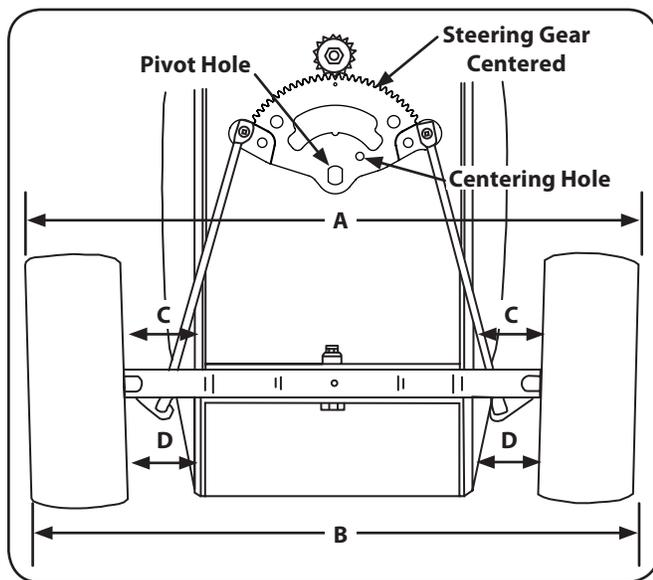

Figure 6-6
The front wheels should toe-in approximately $\frac{1}{8}$ to $\frac{1}{4}$ " as measured across dimensions A and B. See Figure 6-6.
1. Check the steering gear to ensure it is in the centered position. The hole in the steering segment gear will align with the hole in the steering housing (See Figure 6-6).
3. Measure the distance between the bottom edges of the tractor frame channels and the marks on the front of each wheel (See measurement D in Figure 6-6). These two measurements should be equal.
4. Measure the distance between the frame and the marks on the rear of each front wheel (See measurement C in Figure 6-6). Measurement D should be approximately $\frac{1}{16}$ - to $\frac{1}{8}$ -inch less than measurement C on each side of the tractor.